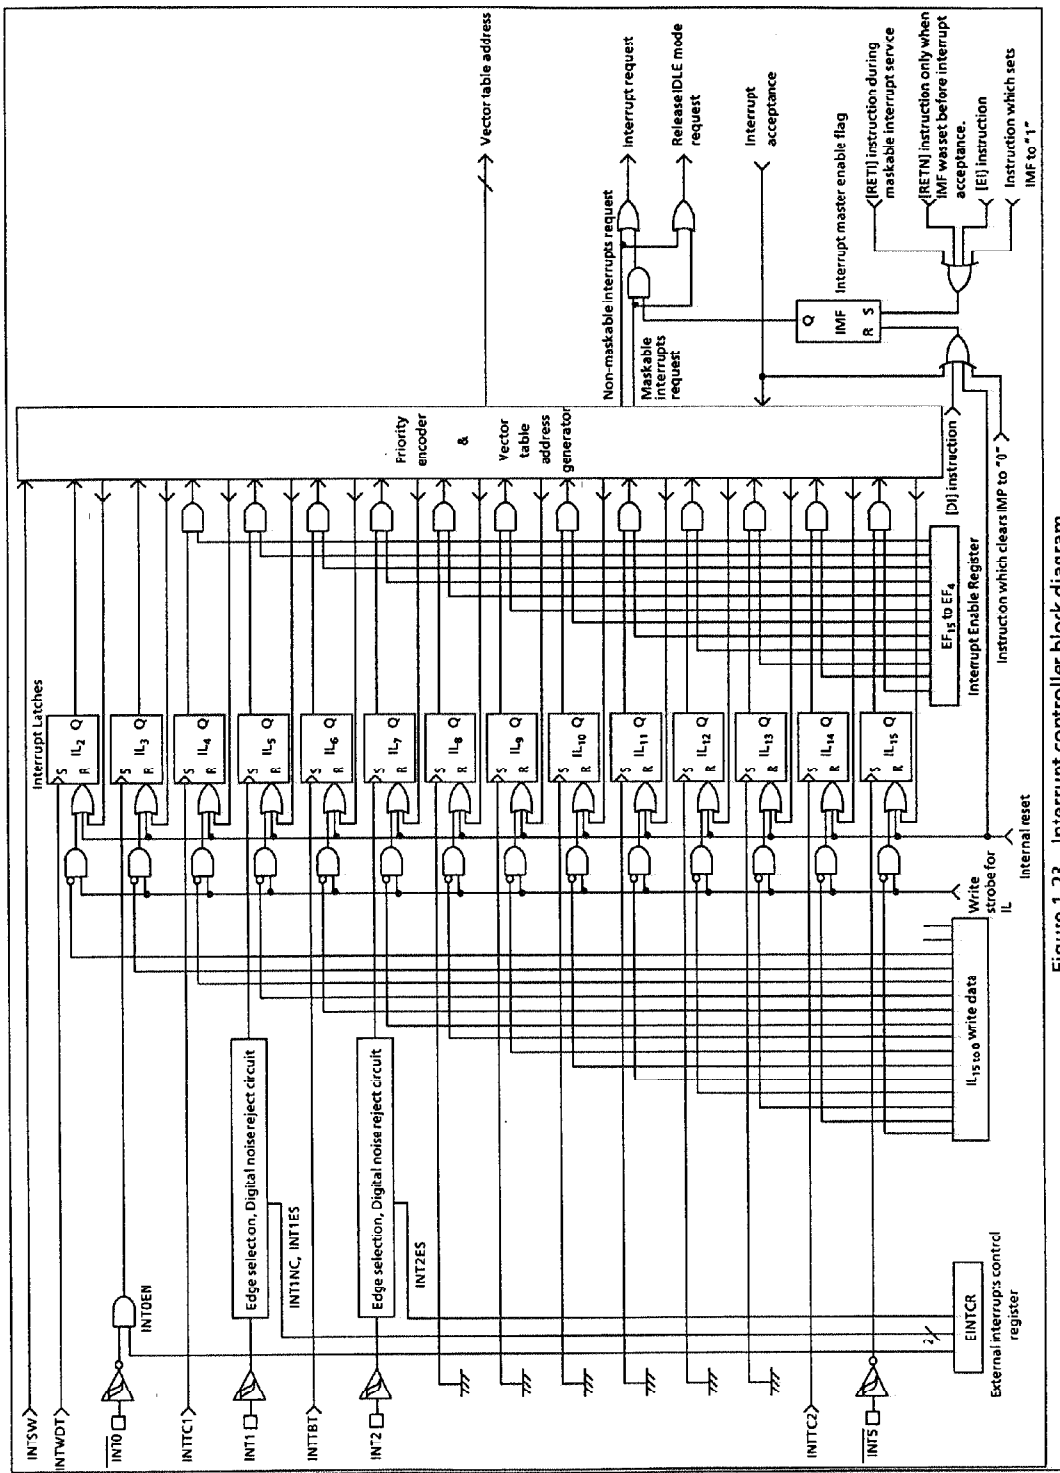

Figure 1-23. Interrupt controller block diagram
Interrupt latches (IL) that hold the interrupt requests are provided for interrupt sources. Each interrupt vector is independent. The interrupt latch is set to "1" when an interrupt request is generated and requests the CPU to accept the interrupt. The acceptance of maskable interrupts can be selectively enabled and disabled by the program using the interrupt master enable flag (IMF) and the individual interrupt enable flags (EF). When two or more interrupts are generated simultaneously, the interrupt is accepted in the highest priority order as determined by the hardware. Figure 1-23 shows the interrupt controller.